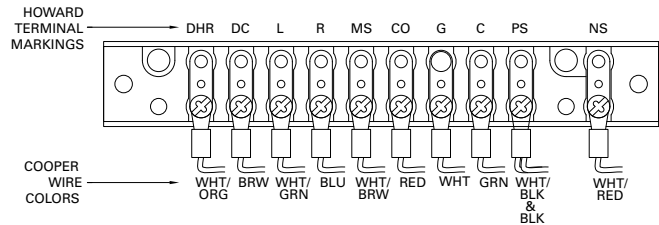

Figure 50. Howard Industries adapter with terminal markings and wire colors—wired for use with source-side PT
17. Review the Howard Industries nameplate to determine correct overall Potential Transformer (PT) ratio entered at FC 44 on control. On regulators manufactured by Howard Industries, divide the load volts by the corresponding control volts to obtain the overall PT ratio.
18. If a source-side PT will be used, move the white/brown wire from terminal PS and place it on terminal MS as shown in **Figure 50**. If this is not done, the control will use a calculation to determine the source-side voltage. If utilizing a source-side PT, make sure to enter the Internal PT Ratio into the control at FC 44!. The Internal PT Ratio can be determined by dividing the Source Volts shown on the nameplate for reverse power flow by the corresponding Control Volts. Also, when using a source-side PT, the Vin PT Configuration (FC 146) must be set for Vin Mode.